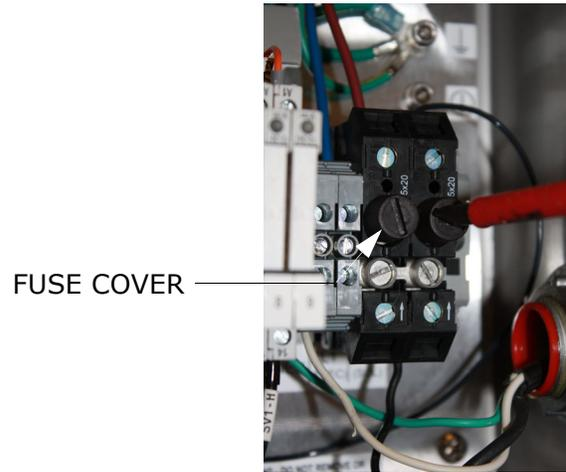

Figure B-1 Unscrewing fuse cover
- Using a flat-head screwdriver, remove the fuse screw turning counterclockwise as shown in Figure B-1 below.